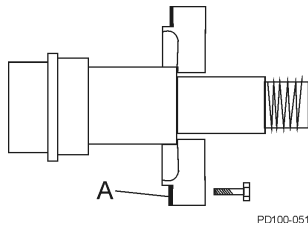

Figure 43 - Remove Sealant from Retainer
- Remove the silicone sealant (Figure 43, item A) from the bearing retainer and gear case.